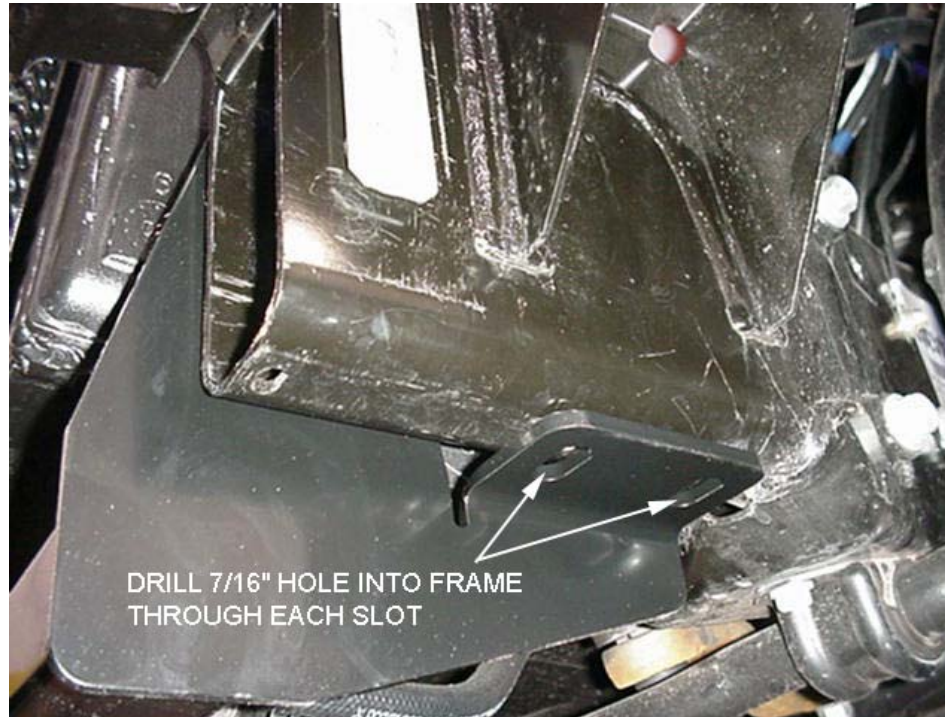

Figure 5 Receiver Assembly temporarily bolted in place (left side shown)
- Temporarily bolt the Receiver Assembly in place with the factory 12mm bolts. Clamp or hold it tight against the bottom of the frame tubes. **See Figure 5** Use the 1/16" spacers as required between the frame tubes and the Receiver Assembly.
- Drill two (2) 7/16" holes through the bottom of each frame tube. Use the slots in the Receiver Assembly as templates and drill through the center of each slot. **See Figure 5**